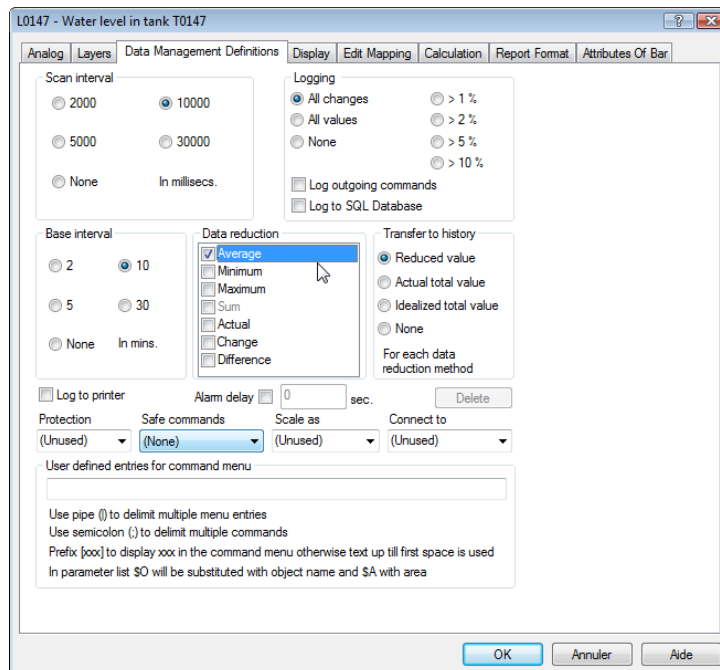

Figure 3.36 On the **Data Management Definitions** tab you define the data collection properties.
4. Click the **Data Management Definitions** tab and make the selections shown in Figure 3.36.